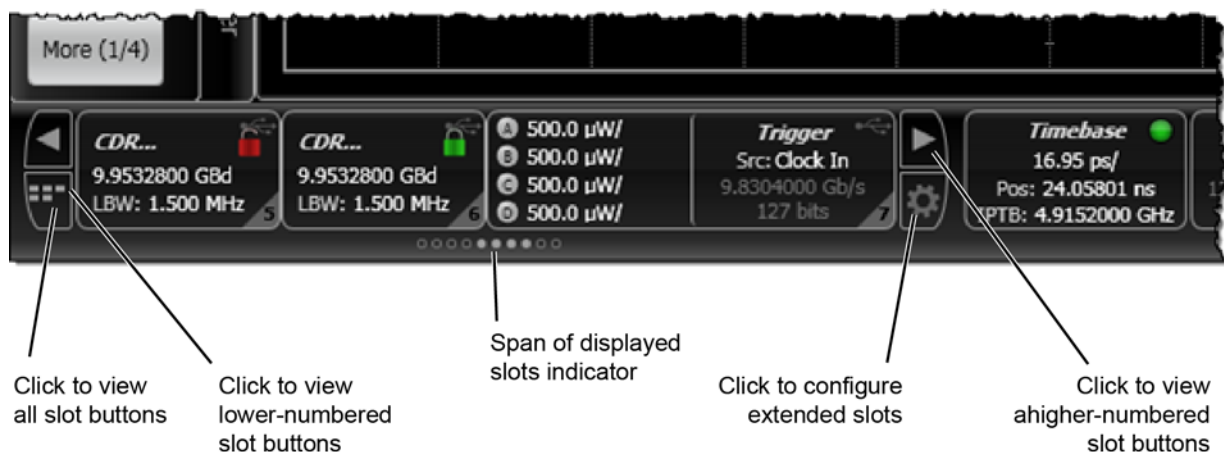

Figure 11 Slot buttons at bottom of FlexDCA application
- 6 Locate the slot button for your installed N109X-series in FlexDCA's slot button tray as shown in **Figure 11**. Click the gear button if you want to re-assign the DCA-M to a different slot. This can also be accomplished remotely as shown in **"Example 2. Re-assign a DCA-M to a different slot"** on page 86.